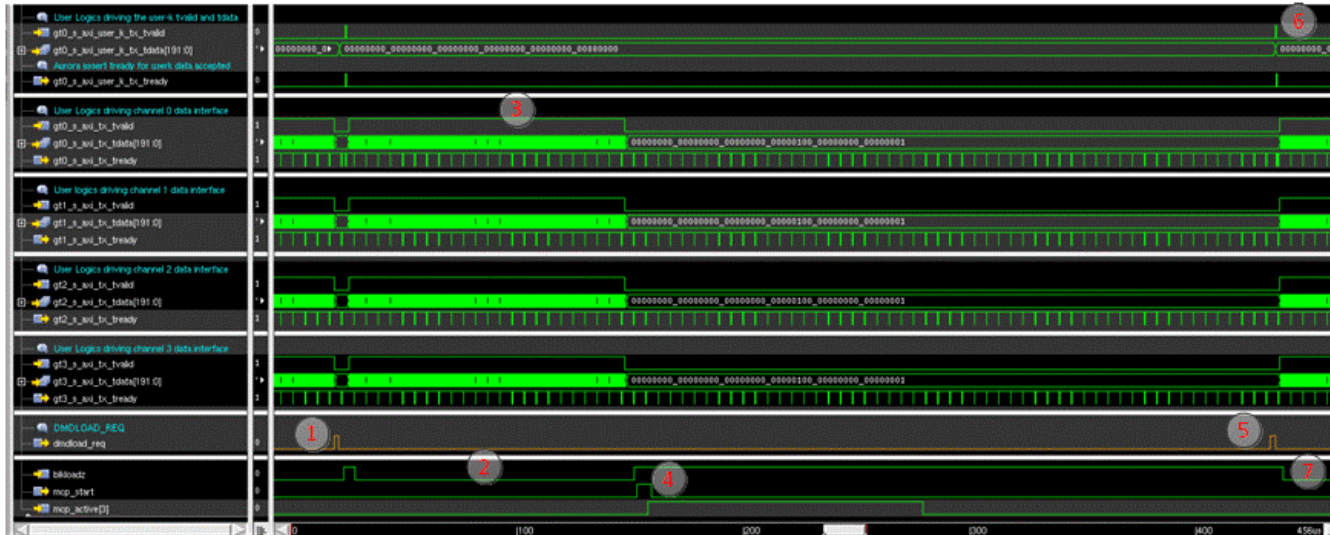

図 7-6. DMDLOAD_REQ Delayed Assertion Waveform
- It is not necessary for the APPS FPGA to immediately assert DMDLOAD_REQ after sending a DMD data block. The APPS FPGA may send the DLPC964 Controller a DMD data block and then delay the assertion of DMDLOAD_REQ until the system is ready for the DMD be loaded. Figure 7-6 describes this operation.